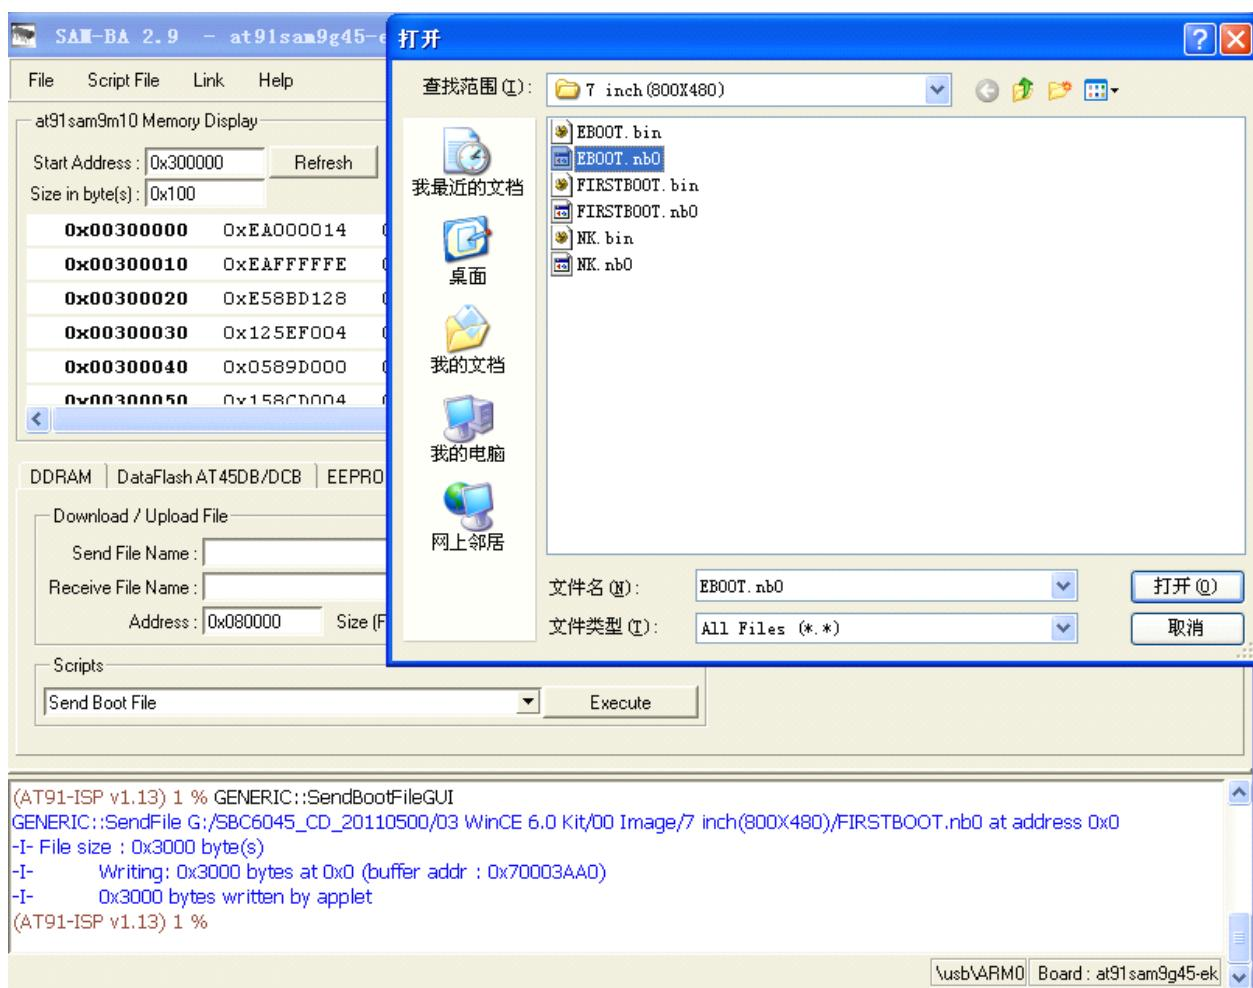
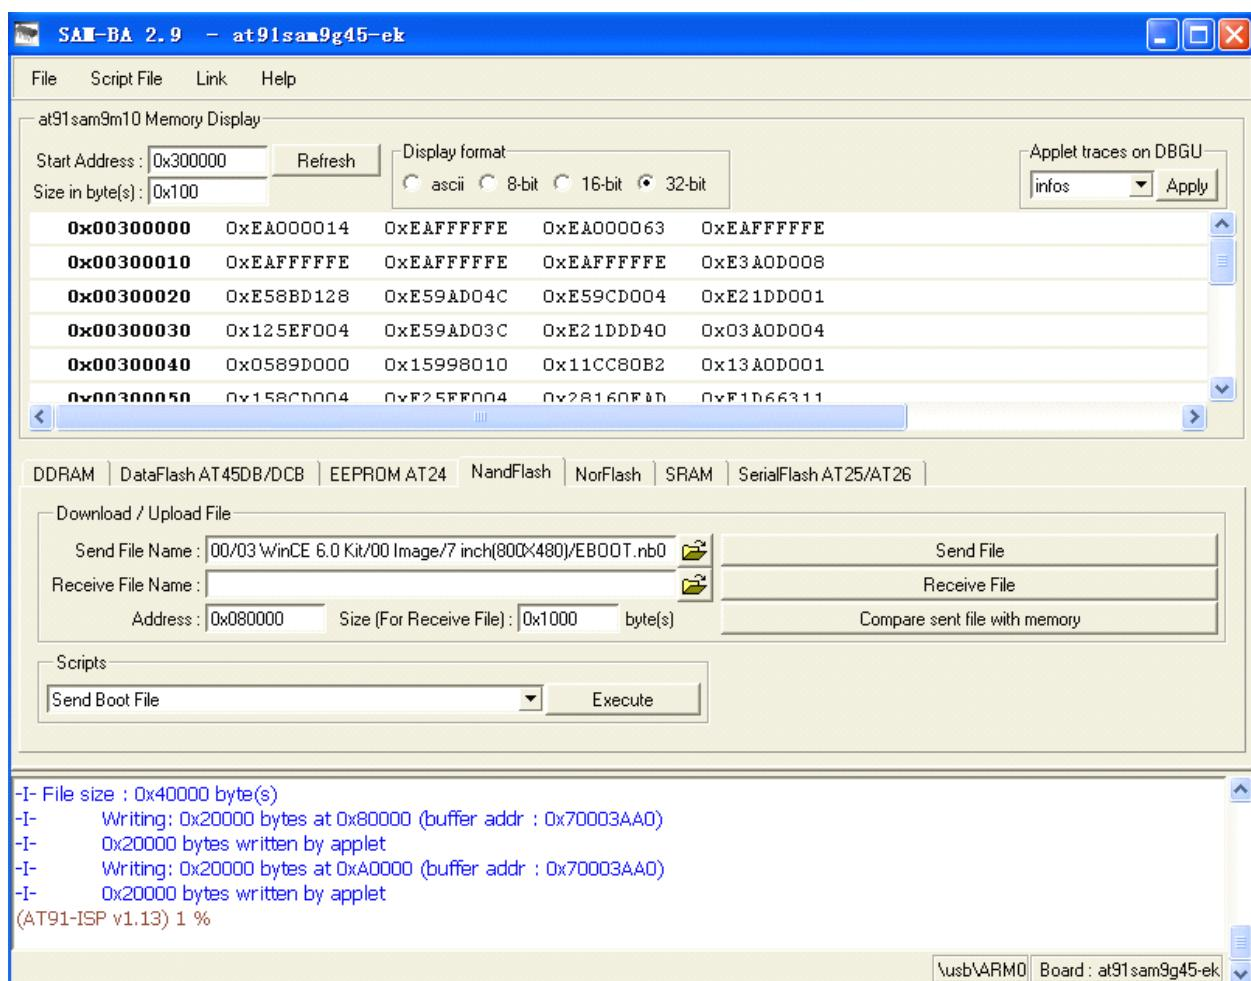

Figure 12.2.8
Figure 12.2.9
- As shown in Figure 12.2.8, enter address 0x80000 in the Address: field in Download/Upload File of SAM-BA v2.9. Select SBC6045 CD \03 WinCE 6.0 Kit\00 Image \EBOOT.nb0 file in the text box Send File Name; then click Send File button in Download/Upload File of SAM-BA v2.9, SAM-BA v2.9 will start burning EBOOT.nb0 file to the beginning of 0x80000 address of NAND flash on SBC6045 board, After the burning is successful, the interface as shown in Figure 12.2.9 will appear.